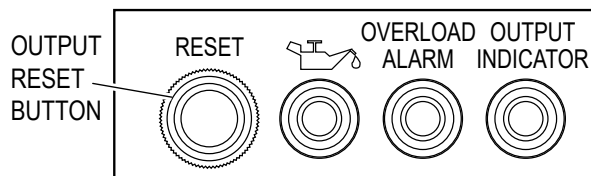

Figure 23. Output Reset Button
11. Press the output reset button (Figure 23) to reset the generator.